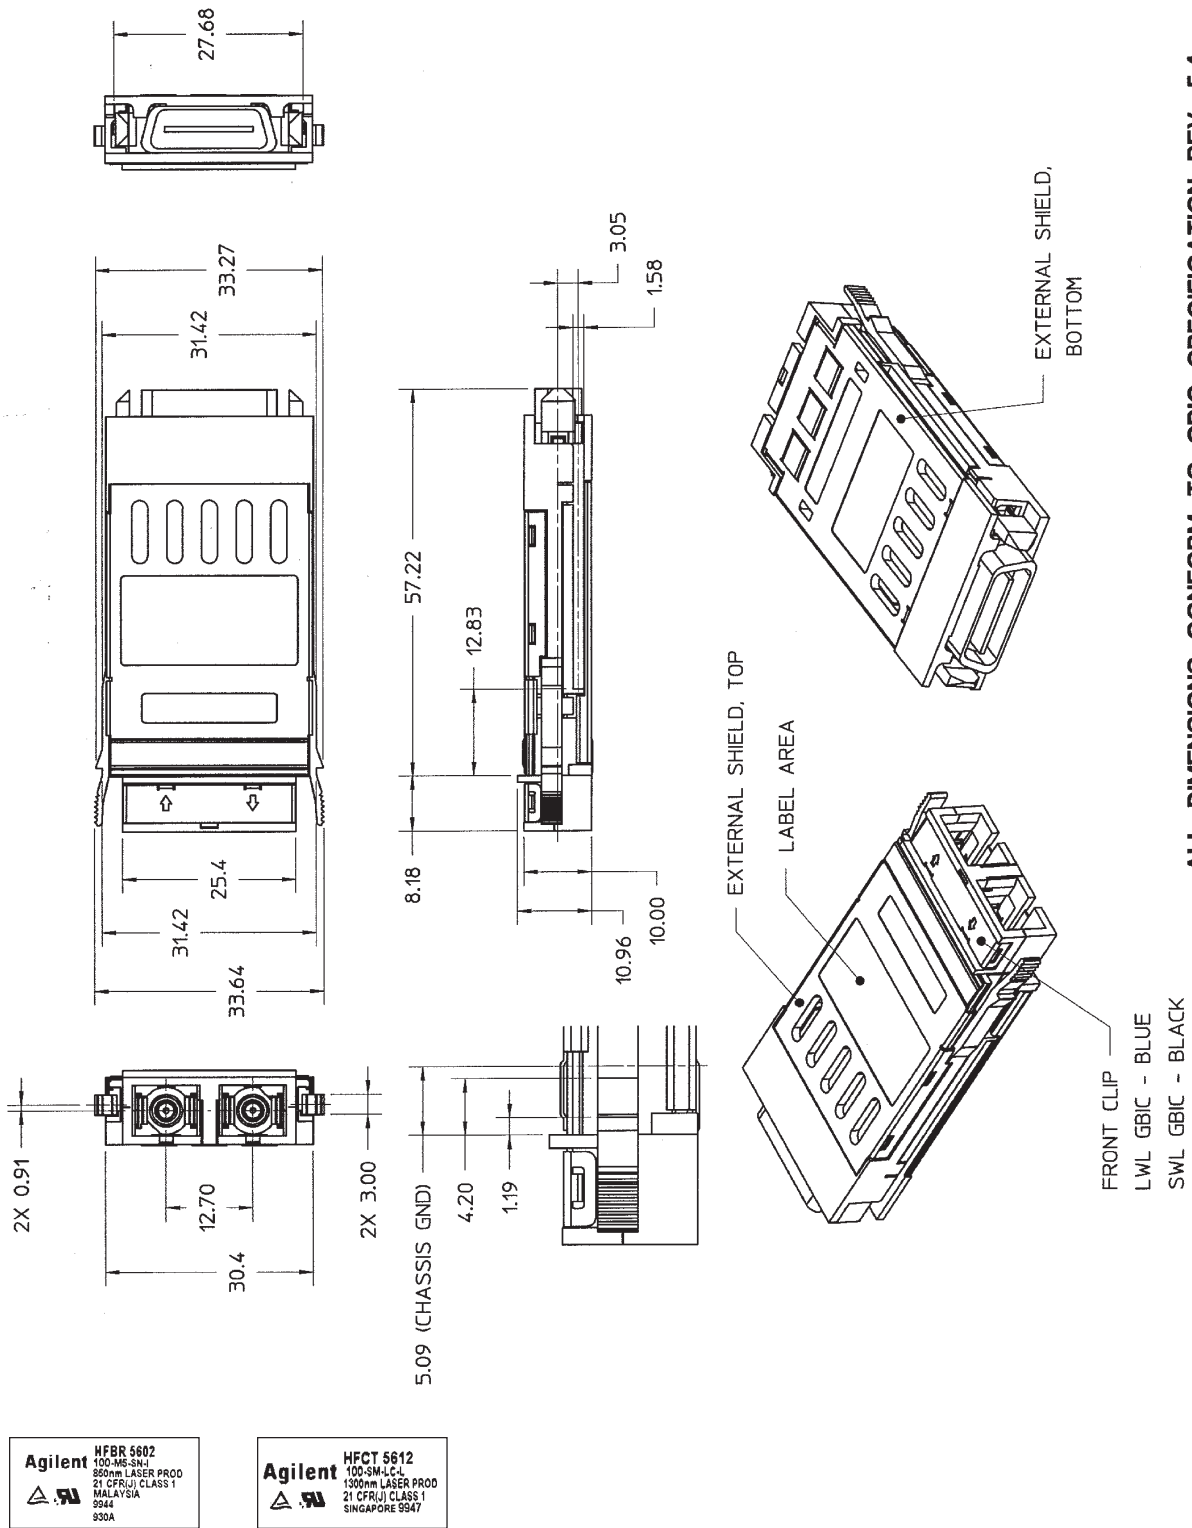

Figure 1. Outline Drawing of HFBR-5602 and HFCT-5612.
An outline drawing is shown in Figure 1. More detailed drawings are shown in Gigabit Interface Converter specification Rev. 5.4.
2. See Figure 1 for measurement point.